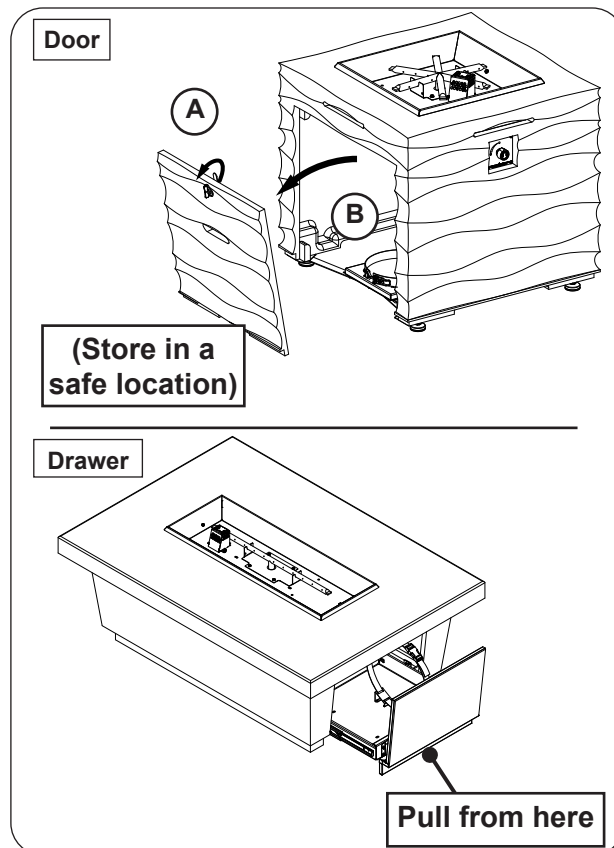

Fig. 25-2 Remove or open door/drawer (if applicable)
2. Remove/open the storage door/drawer. See below and Fig. 25-2.